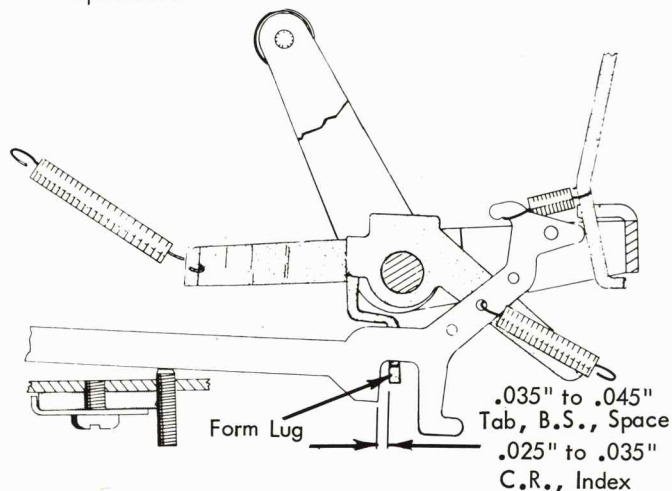

FIGURE 119. Clutch Release Arms Adjustment
7. Clutch Release Arm (Fig. 119) - The lug at the bottom of each clutch release arm should be formed so that it clears the interposer lug by .025" to .035" on Carrier Return, Index and .035" to .045" on Tab, Backspace, and Spacebar.